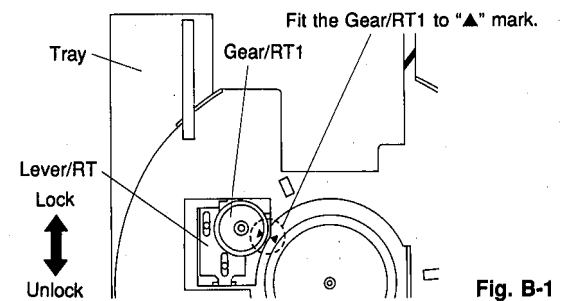

Fig. B-1
- Slide the Lever/RT so that the Gear/RT1 becomes free. (Fig.B-1)
- With the "▲" mark on the Gear/RT1 aligned with the same mark on the Tray, lock it with the Lever/RT. (Fig.B-1)